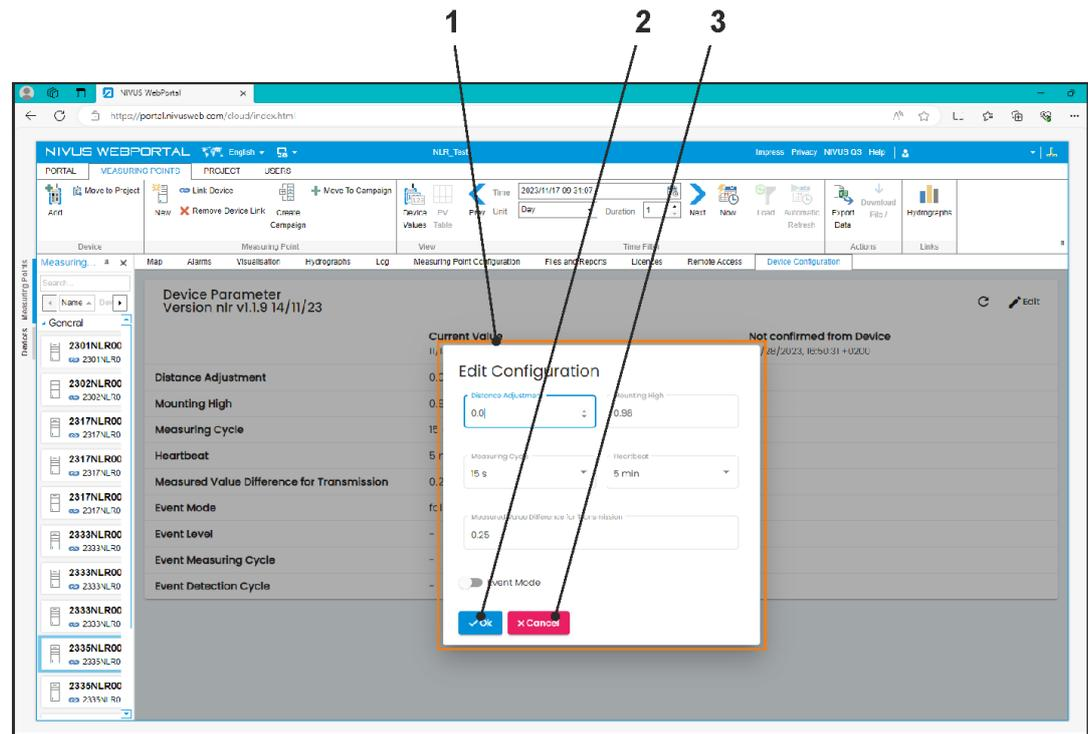

Fig. 31-2 Edit sensor parameters in the NIVUS WebPortal
An editing window (Fig. 31-2 Pos. 1) opens and the values can be changed there.
2. Press "OK" (Fig. 31-2 Pos. 2) to save the entered parameters and note "Not yet confirmed by device" in the right-hand column.
press "Cancel" (Fig. 31-2 Pos. 3) to cancel the editing process without accepting values. The sensor continues to work with the last saved parameters.